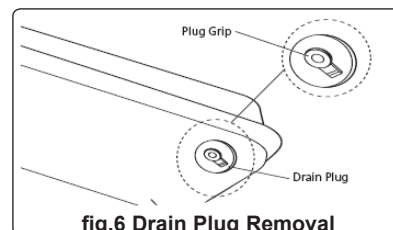

fig.6 Drain Plug Removal
- 6.2.1. For long term storage the fuel tank will need to be drained. The tank should be flushed every 200 hours of operation or as required. There is a drain plug on the underside of the fuel tank (fig.6). To remove the plug pull down the plug grip and remove the seal head from the drain hole. Drain the fuel into a suitable container. Using a small amount of fresh paraffin, rinse and swirl the paraffin inside the tank and then drain fully.